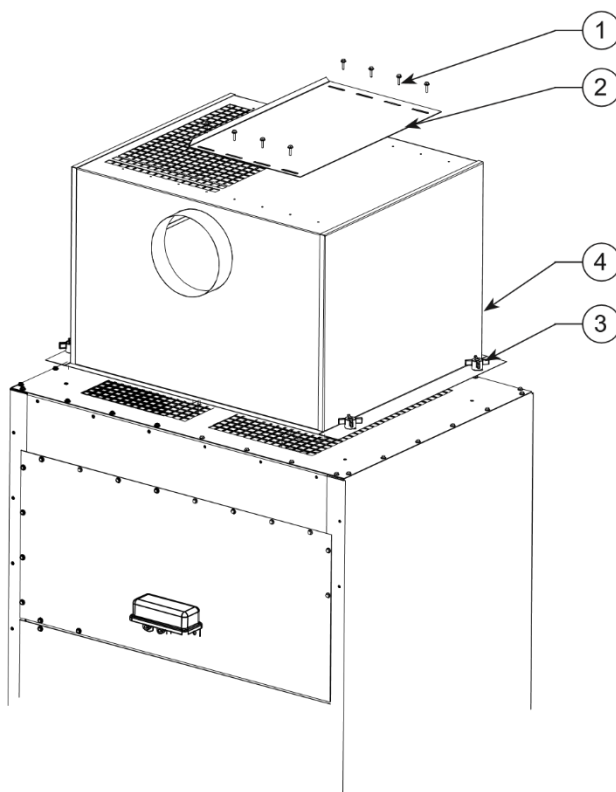

FIG.7
2. Place the Silencer assembly over the exhaust plate. The duct opening should point towards the front of the cabinet (See FIG. 7).